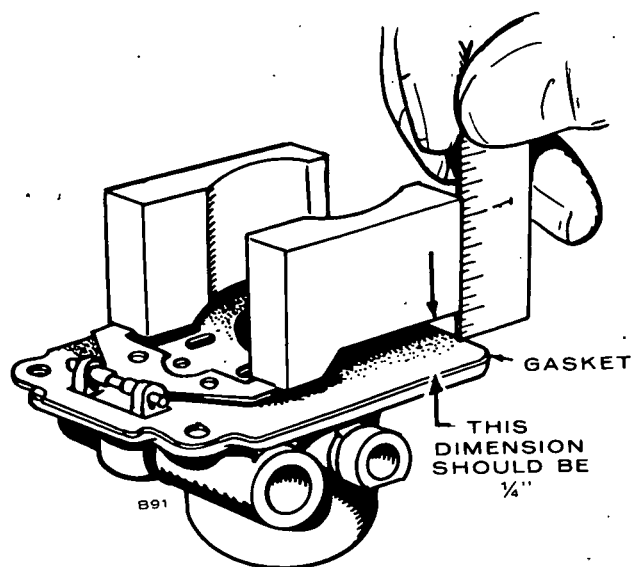

FIGURE 32. CARBURETOR FLOAT SETTING
3. With the carburetor casting inverted and the float resting lightly against the needle and seat, there should be 1/4-inch (6.35 mm) clearance between the bowl cover gasket and the free end of the float (side opposite needle and seat). See Figure 32.